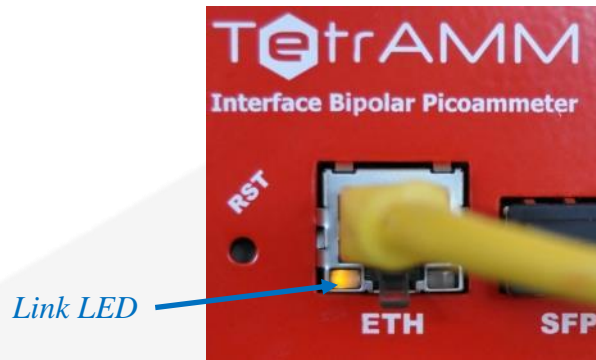

Figure 5: Ethernet Link
- perform a scan to discover the connected QDS devices by clicking the “*Scan*” button as indicated in **Figure 5**. If there are multiple available networks it is possible to select the network/networks to be scanned in the “*Selected network interfaces*” window available under the “*Options*” menu. All the information about the selected devices is shown in the right side of the main window.